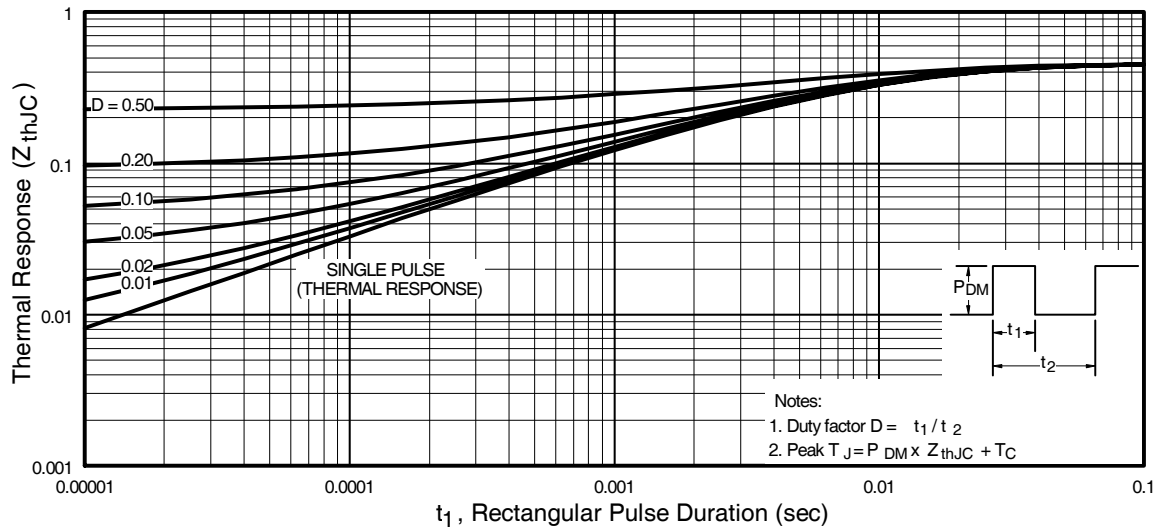

Fig 11. Maximum Effective Transient Thermal Impedance, Junction-to-Case
- ① Repetitive rating; pulse width limited by max. junction temperature. (See fig. 11).
- ② Starting T_J = 25°C, L = 0.11mH
$Z_{thJC}(D, t_{av})$ = Transient thermal resistance, see figure 11)